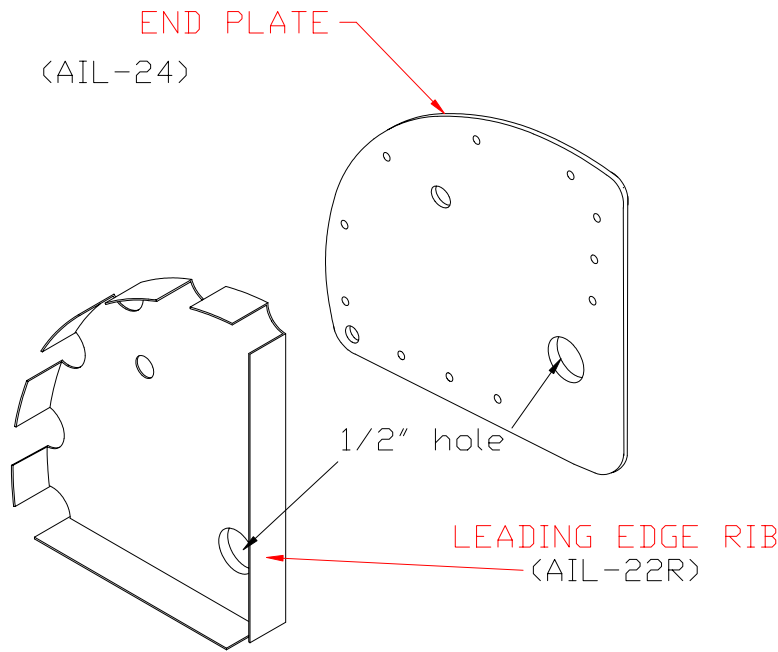

Figure 7.1.4
- 6) Remove the cleco from the bottom corner position hole. Drill this hole out to 1/2" in both the End Plate and the Leading Edge Rib. If you do not have a 1/2" drill, use a 1/2" circle template to mark out, rough cut the material and then use a small round file to clean it up. Figure 7.1.4.